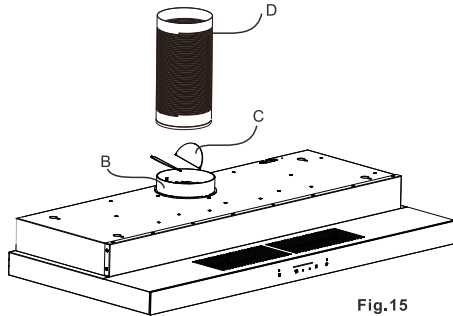

Fig.15
1. Before fixing, the outlet holder B must be installed on hood with two blades C. The outlet pipe D (Inner diameter: Ø122mm) for air evacuation to the outside must be installed (Fig.15).